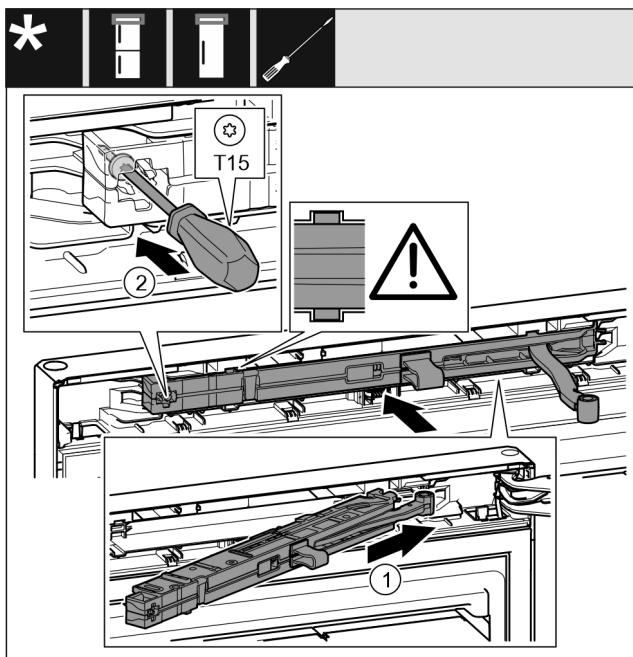

Fig. 55
- Slide the closing damper unit *Fig. 55 (1)* on the swap bearing block side up to the stop diagonally into the recess.
- Tighten the screw *Fig. 55 (2)* with a screwdriver.